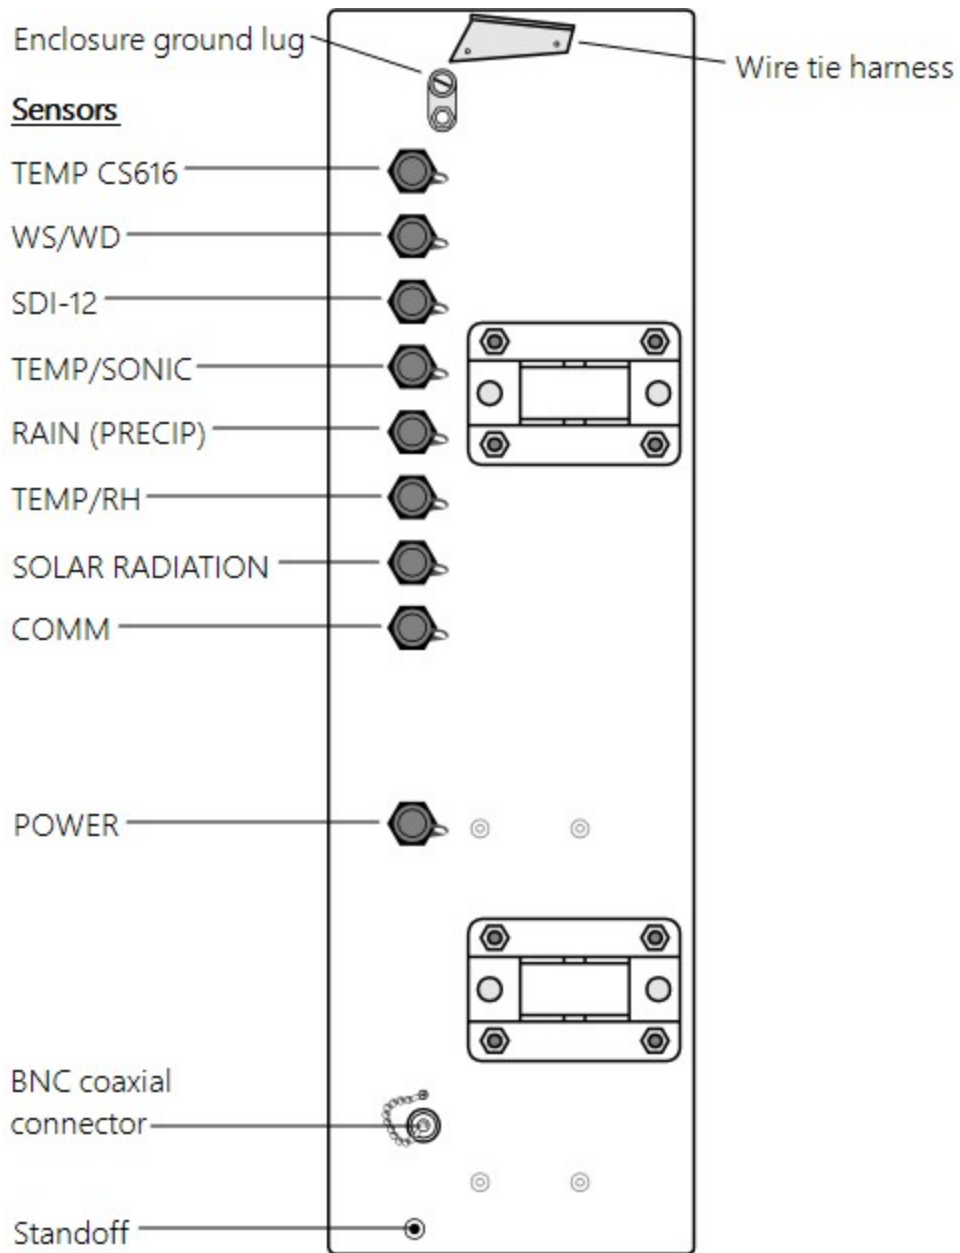

FIGURE 6-6. Position of bulkhead connectors
7. Connect the power plug to the POWER connector on the back of the enclosure (FIGURE 6-6 (p. 20)). Ensure that the plug is completely seated on the connector and the locking ring is turned a quarter revolution clockwise.